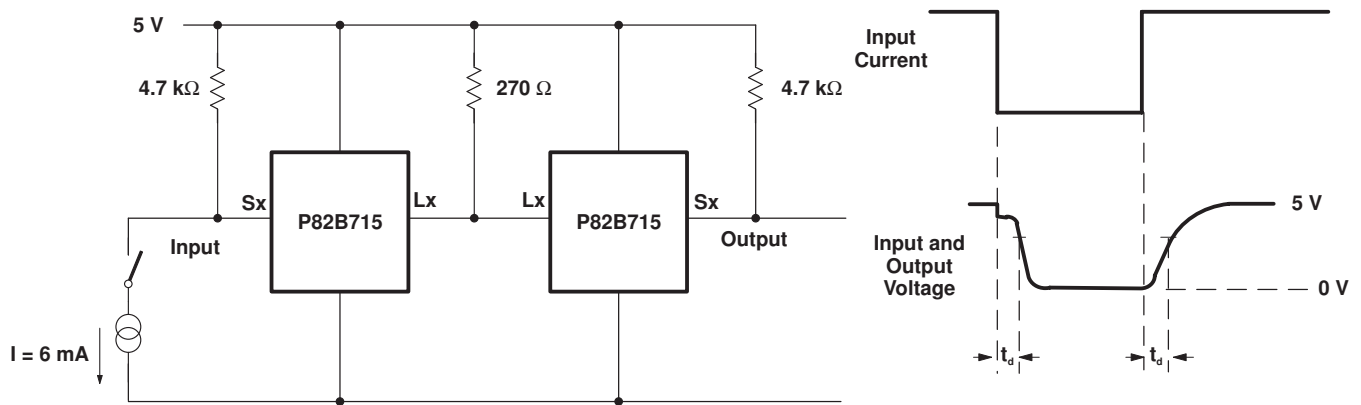

Figure 2. Test Circuit for Delay Times
- (1) A conventional input-output delay is not observed in the  $S_x/L_x$  voltage waveforms, because the input and output pins are internally tied with a 30- $\Omega$  resistor so they show equal logic voltage levels to within 100 mV. When connected in an I2C system, an  $S_x/S_y$  input pin cannot rise/fall until the buffered bus load at the output pin has been driven by the internal amplifier. This test measures the bus propagation delay caused to falling or rising voltages at the  $L_x/L_y$  output (as well as the  $S_x/S_y$  input) by the amplifier's response time. The figure given is measured with a drive current as shown in Figure 2. Because this is a dynamic bus test in which a corresponding bus driving IC has an output voltage well above 0.4 V, 6 mA is used instead of the static 3 mA.
- (2) The signal path  $L_x$  to  $S_x$  and  $L_y$  to  $S_y$  is passive through the internal 30- $\Omega$  resistor. There is no amplifier involved and essentially no signal propagation delay.